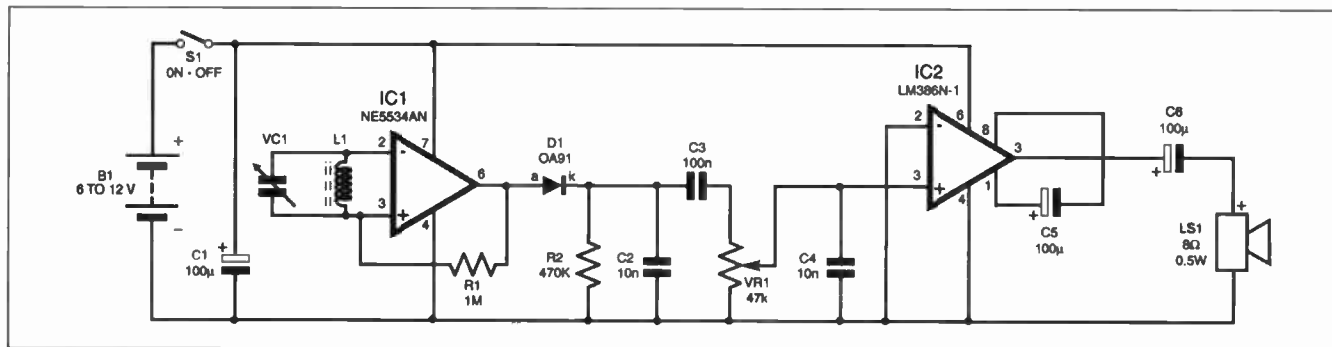

Fig. 1. Complete circuit diagram for the Simple M.W. Radio
**T**HE circuit in Fig.1 represents a cheap and simple MW Radio. It has modest selectivity, yet good power (0.5W r.m.s. into 8W), and does not require an external aerial or earth.